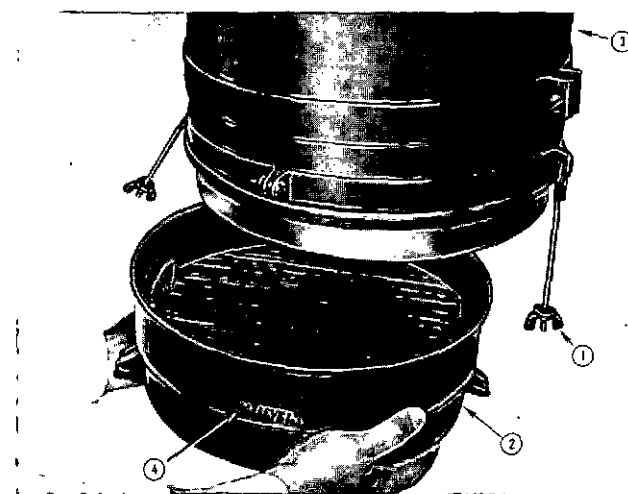

Fig. 5-3, N11001. Oil level in air cleaner
Daily, check oil level (4, Fig. 5-3) in oil bath air cleaner (3) to be sure oil level in oil cup (2) is at indicated mark. To remove oil cup, loosen wing nuts (1). During wet weather and in winter months, excessive moisture in air cleaner oil sometimes causes cleaner to become flooded and results in oil pullover or plugging of the bottom air cleaner screen. Add or change oil as necessary. This is especially important if oil bath cleaner is the only cleaner on the engine.